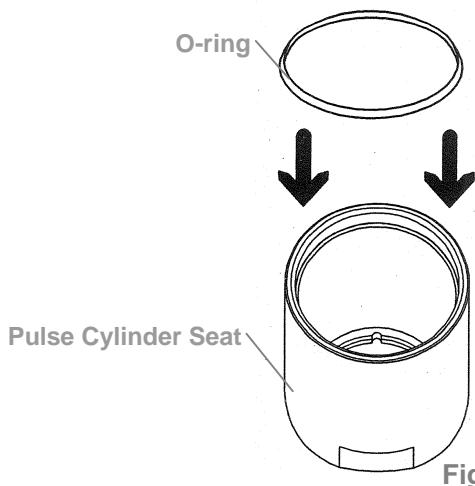
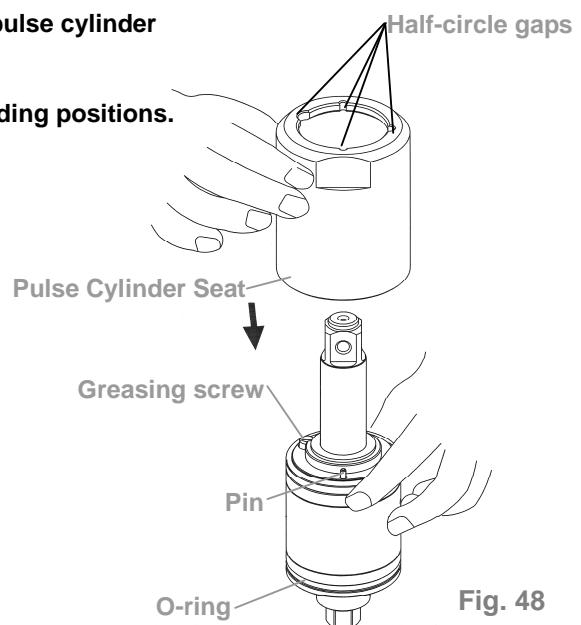

Fig. 47
Fig. 48
- ① Place the o-ring inside the bottom of the pulse cylinder seat, then combine the pulse cylinder seat with the assembled pulse cylinder unit. (Fig. 47, Fig. 48)